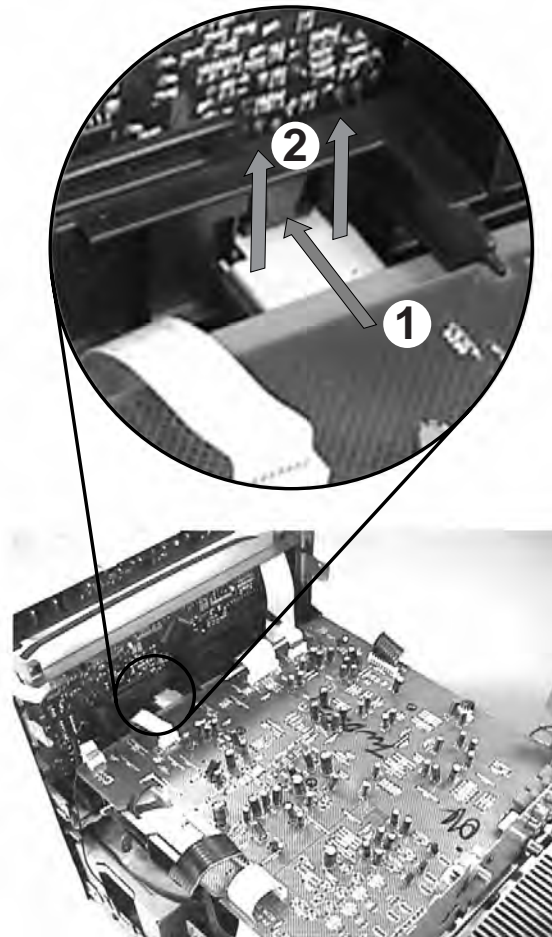

Figure 10
- c) Loosen 1 screw E and remove the Bar Tuner (pos 263) by uncatching it from the Plate Front (pos 254) as shown in fig. 10.
- Release the Bar Tuner (pos 263) from the Plate Front (pos 254) as shown in figure 10.